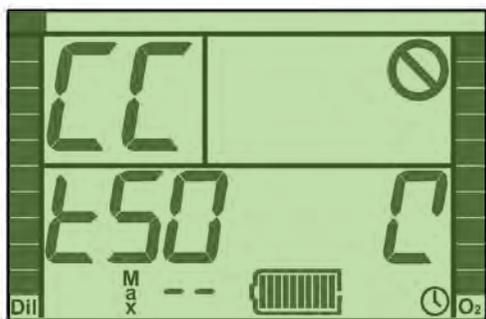

Figure 2-10.
The mouthpiece should have been left in OC position following Test 43, as indicated by the "Open-Circuit" icon on the Primary Display. At Test 50 (Figure 2-10), the icon disappears from the Display, the letters "CC" flash in the upper left corner of the LCD, the HUD vibrates, the HUD and battery LEDs flash, and the audio speaker sounds. All of this indicates that the mouthpiece should be placed in the Closed-Circuit (CC) position. As soon as the mouthpiece is in the Closed-Circuit position and is detected by the HUD, the test will pass. The system allows 2 minutes for this test to be completed, before timing out.